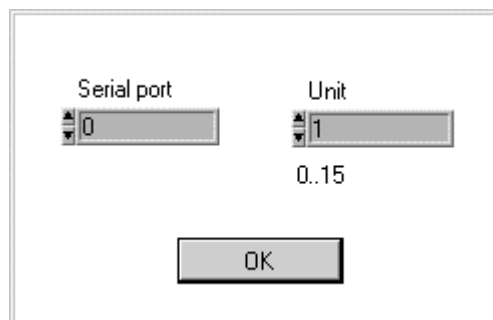

Fig. 4 Communications settings dialog
The rotary switch on your ADIO is set to 1 and you have connected the serial cable to the COM1 port (PC) or Modem port (Mac). Then the settings you have to make are exactly the same as those indicated in Fig. 4